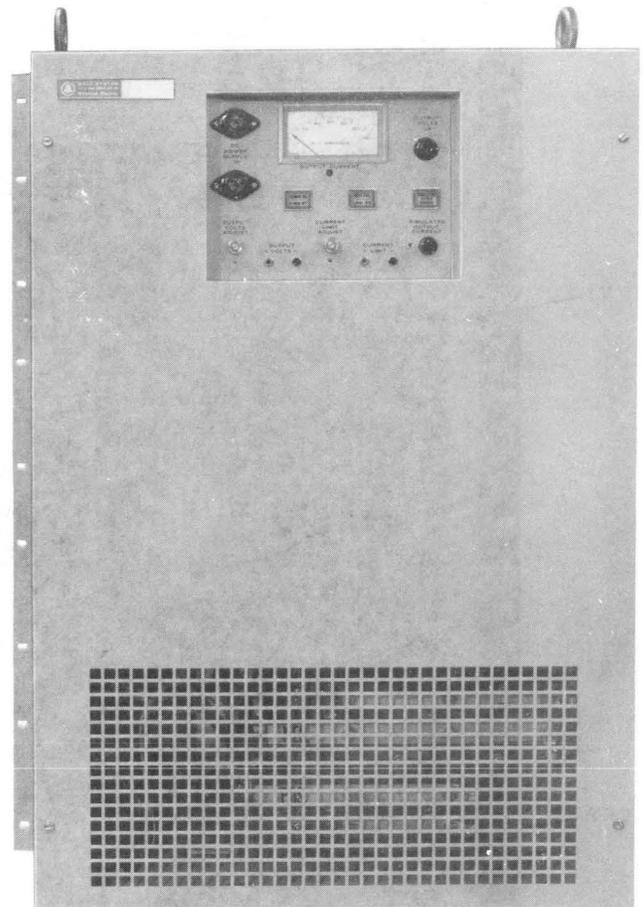

Fig. 1—KS-20493 Rectifier—Front View
1.01 The KS-20493 rectifier (Fig. 1 and 2) provides regulated dc power from a single-phase ac source normally for use in charging and floating a 24-cell battery plant.